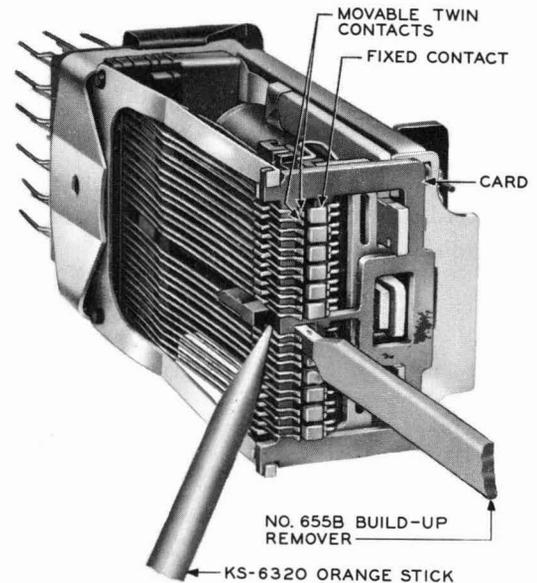

Fig. 37 – Method of Removing Buildups on Twin Contacts of AF-, AG-, and AJ-type Relays (Wire Spring Type)
- (1) Insert the No. 655B build-up remover between the twin and fixed contacts with the fixed contact seated in the groove of the build-up remover. On normally closed contacts, operate the relay manually, insert the build-up remover and release the relay. Exercise care when inserting the build-up remover to avoid pushing on the outer end of the contacts since this may distort the spring or force the contact off the spring. Insert the build-up remover only to the inner edge of the contacts to insure that it will clear the card at all times.
- (2) Press the twin contacts lightly against the build-up remover by applying the flat portion of the KS-6320 orange stick to the springs at the point where they rest on the card as shown in Fig. 37.
- (3) Move the build-up remover back and forth against the contacts to remove the buildup, being careful to keep the build-up remover approximately perpendicular to the front of the relay. After two or three strokes, withdraw the build-up remover and inspect the contact surface with the aid of the No. 510C test lamp (with the tip removed).